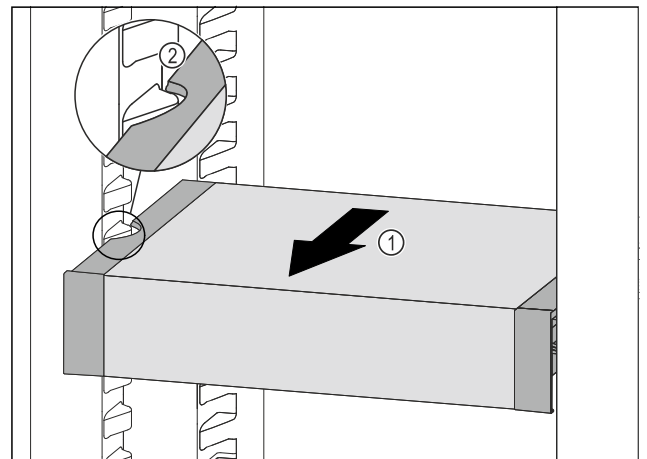

Fig. 101
- ▶ Pull VarioSafe forwards Fig. 101 (1) until the recesses in the side of the VarioSafe are at the level of the support rib in the fridge section. Fig. 101 (2)